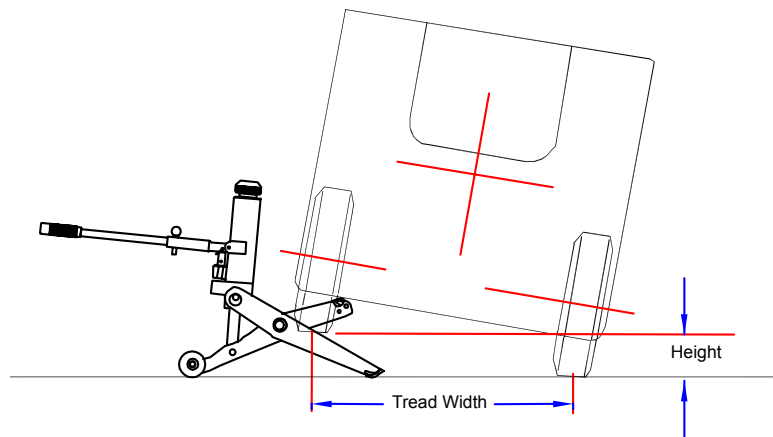

Figure 4
- Make sure at least two wheels of the forklift remain in contact with the floor at all times. NEVER raise a 3-wheeled forklift from the 2-wheeled end or from the side. NEVER use the jack to raise all four wheels of the forklift from the floor. NEVER raise the forklift higher than 1/4 its tread width (see Figure 4).
- The jack's front footpad and rear wheels must ALWAYS remain in direct contact with the floor (see Figure 4).